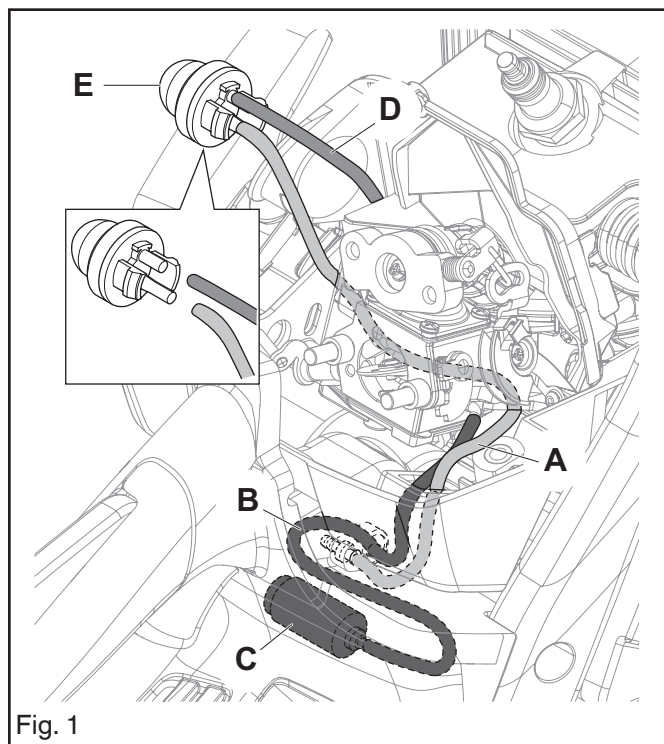

Fig. 1
Fuel hoses positions. See Figure 1.
2. Follow the instructions in chapter 8.1, Step 1 to 7 to dismantle the air filter, air filter holder and start/stop switch. See Figure 1.
When replacing the fuel filter use the special 502 50 83-01 tool. Change the fuel hose and pull it through the hole in the tank unit. See Figure 1.
Unsnap the suction hose (B) and return hose (A) from the primer bulb (E). See Figure 1.